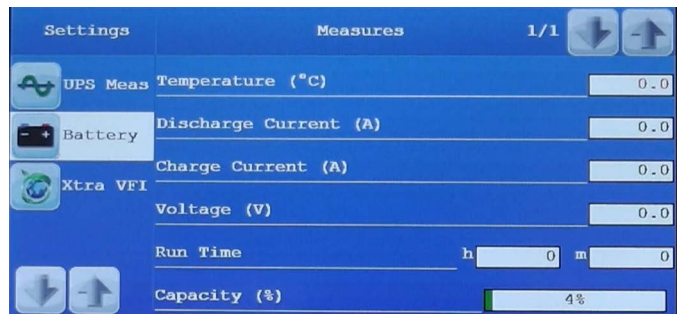

Figure 3.6 MEASURES screen (Battery)
**Battery Measures (Figure 3.6)**